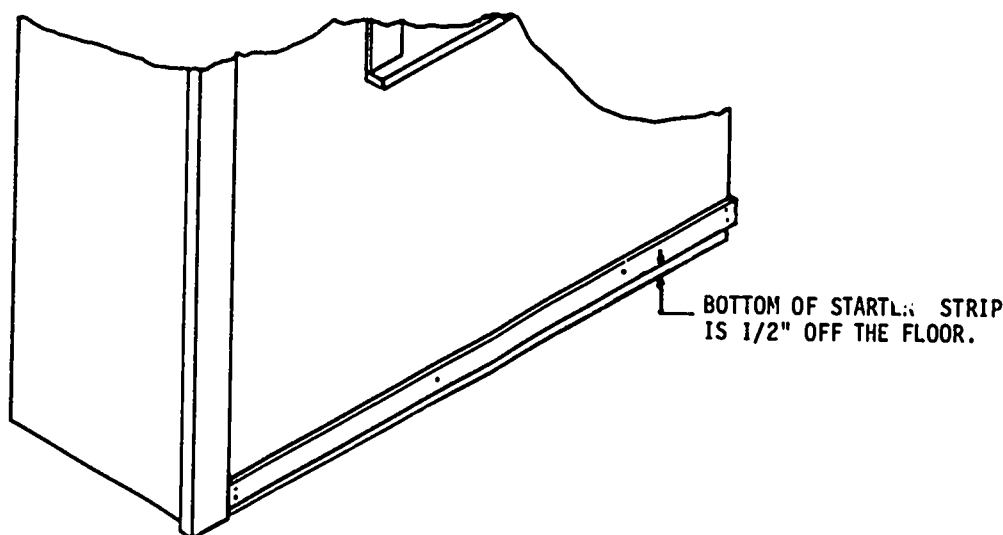

Fig. 58CD-1. Starter Strip Nailed in Place
5. From the bottom edge of the first piece of siding, measure up 10" and mark at each end. See Fig. 58CD-2.
7. Repeat Steps 5 and 6 for each succeeding course. Note: At the bottom and top of the window frame, the siding must be cut to fit. See Fig. 58CD-3. Mark and cut carefully, as there will be no trim of any kind covering the joints. Start corner